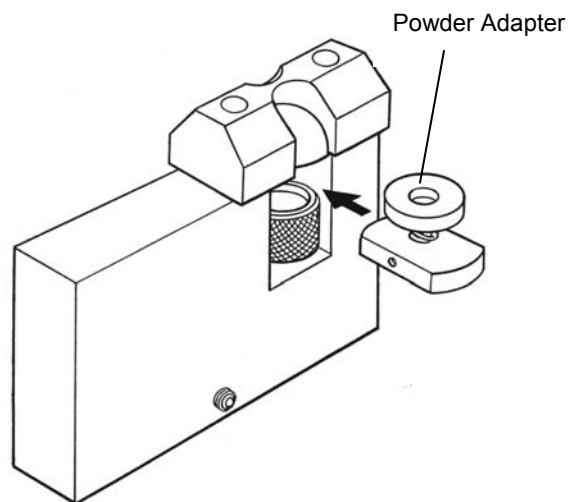

Figure 14 • Powder Adapter
- Locate the powder adapter (Figure 14) on the height adjustment knob.